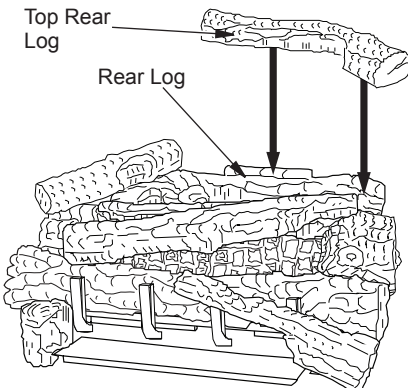

Figure 37 - Installing Top Rear Log
11. Place the top rear log onto the rear log as shown. The rear log has a projection that will fit into the recess area on the bottom of the top rear log (see Figure 37).